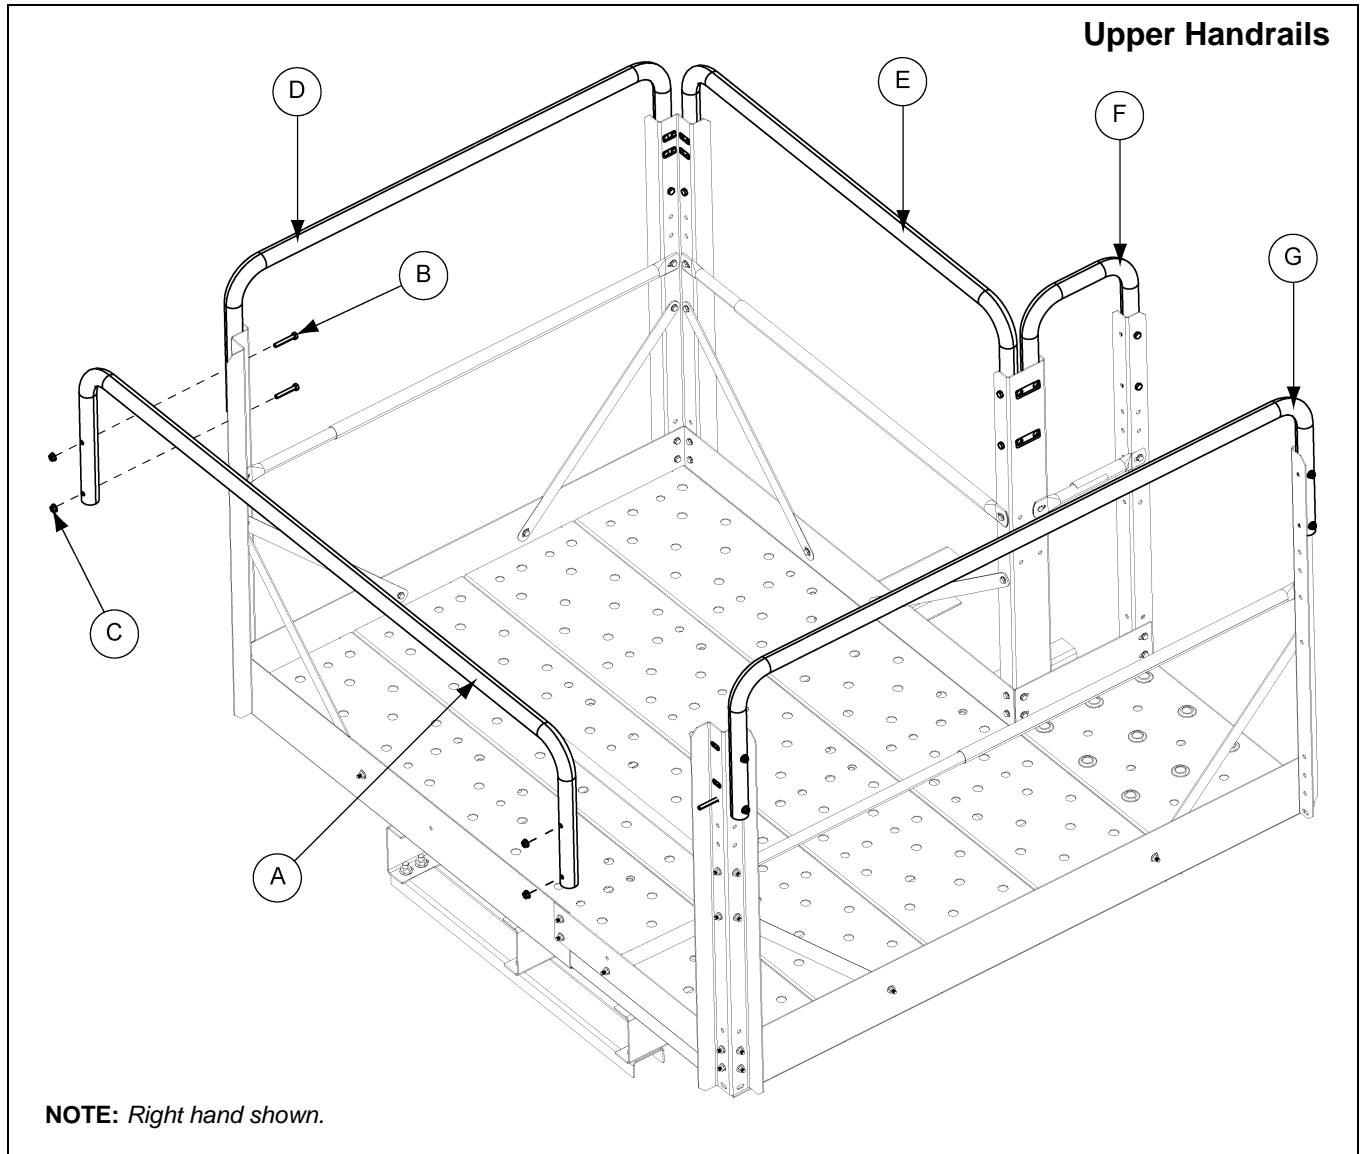

Figure 12K
1. Attach handrails to the posts using four (4) 5/16" x 3/4" flange bolts (S-7877) (B) and nuts (S-3611) (C) per handrail. (See Figure 12K.)